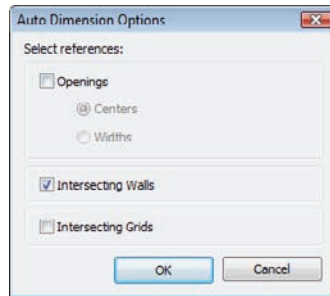

FIGURE 5.3 The Auto Dimension Options dialog box
7. In the Auto Dimension Options dialog box, select Intersecting Walls. Do not select any other item (see Figure 5.3), and then click OK.